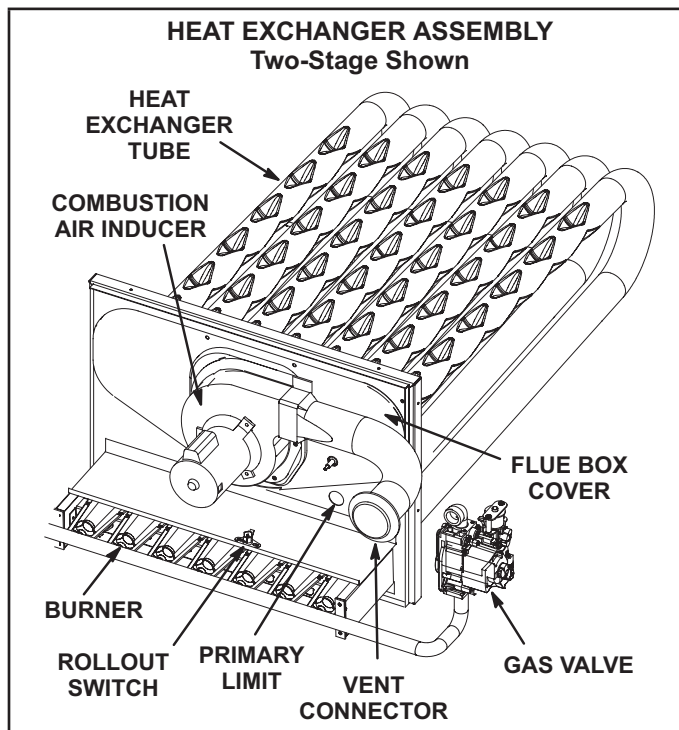

FIGURE 39
- 4 - Remove and retain screws securing combustion air inducer to flue box. Remove vent connector. See FIGURE 39.